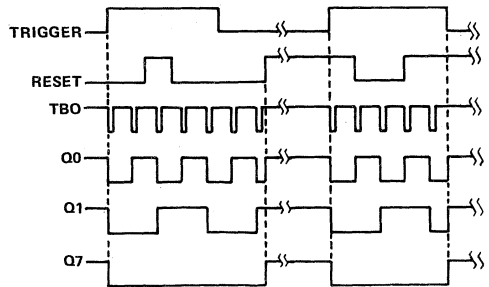

FIGURE 5. TIMING DIAGRAM OF OUTPUT WAVEFORMS
Figure 5 shows voltage waveforms for typical operation of the uA2240C. If both reset and trigger inputs are low during power-up, the timer/counter will be in a reset state with all binary (Q) outputs high and the oscillator stopped. In this state, a high level on the trigger input starts the time-base oscillator. The initial negative-going pulse from the oscillator sets the Q outputs to low logic levels at the beginning of the first time-base period. The uA2240C will ignore any further signals at the trigger input until after a reset signal is applied to the reset input. With the trigger input low, a high level at the reset input will set Q outputs high and stop the time-base oscillator. If the reset signal occurs while the trigger input is high, the reset is ignored. If the reset input remains high when the trigger input goes low, the uA2240C will reset.